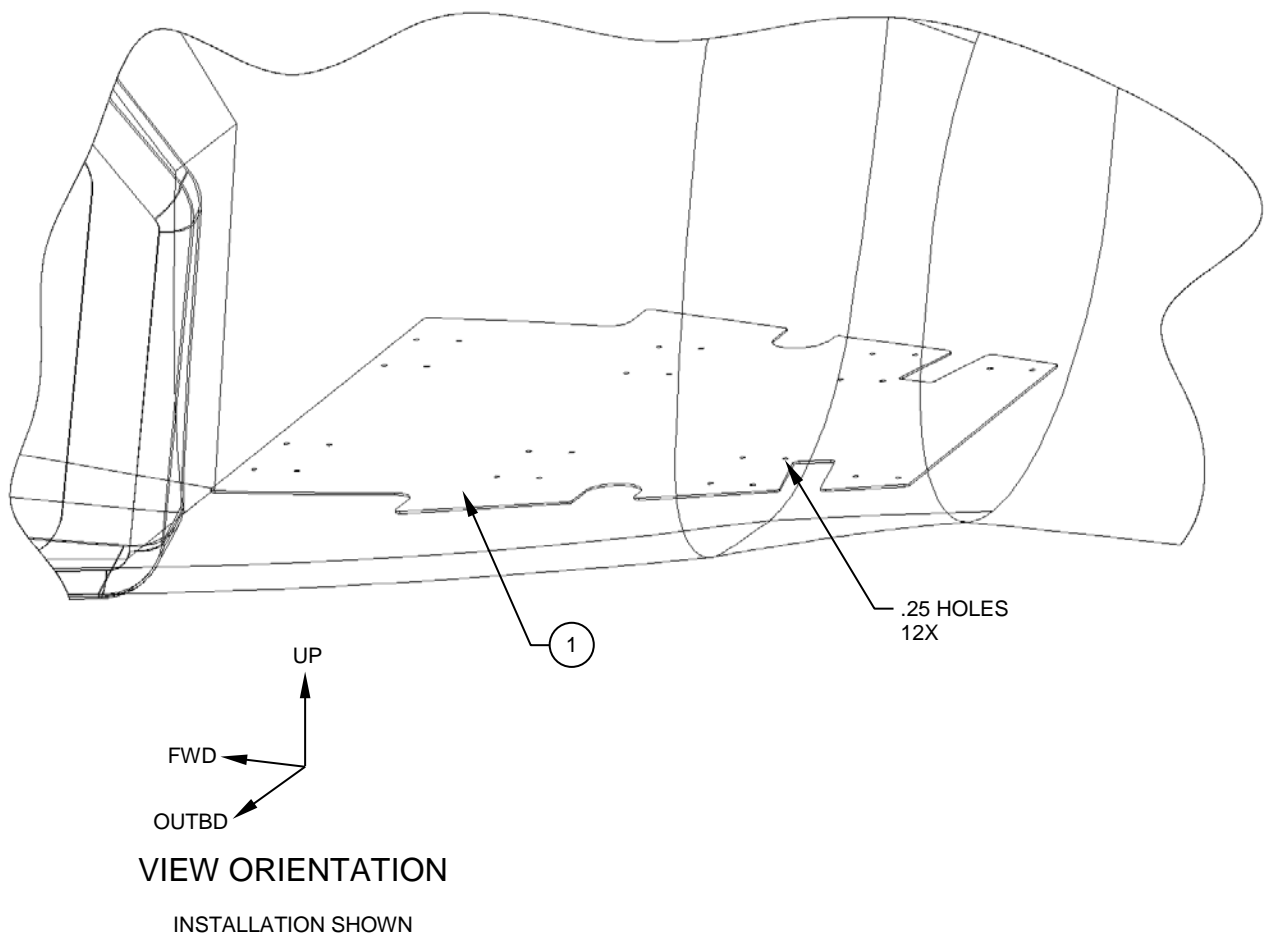

Figure 1
2. Pre-fit the Panel, Assy (Item 1) by lining up the forward edge of the panel, assy with the existing forward edge of the baggage compartment, and center visually. Reference Figure 1.
3. With the panel lined up use the pre-cut RBL & LBL inboard .25 holes and a felt pen to mark out the locations for the Velcro, Details (Items 5) and remove the panel (Item 1). Reference Figure 1.